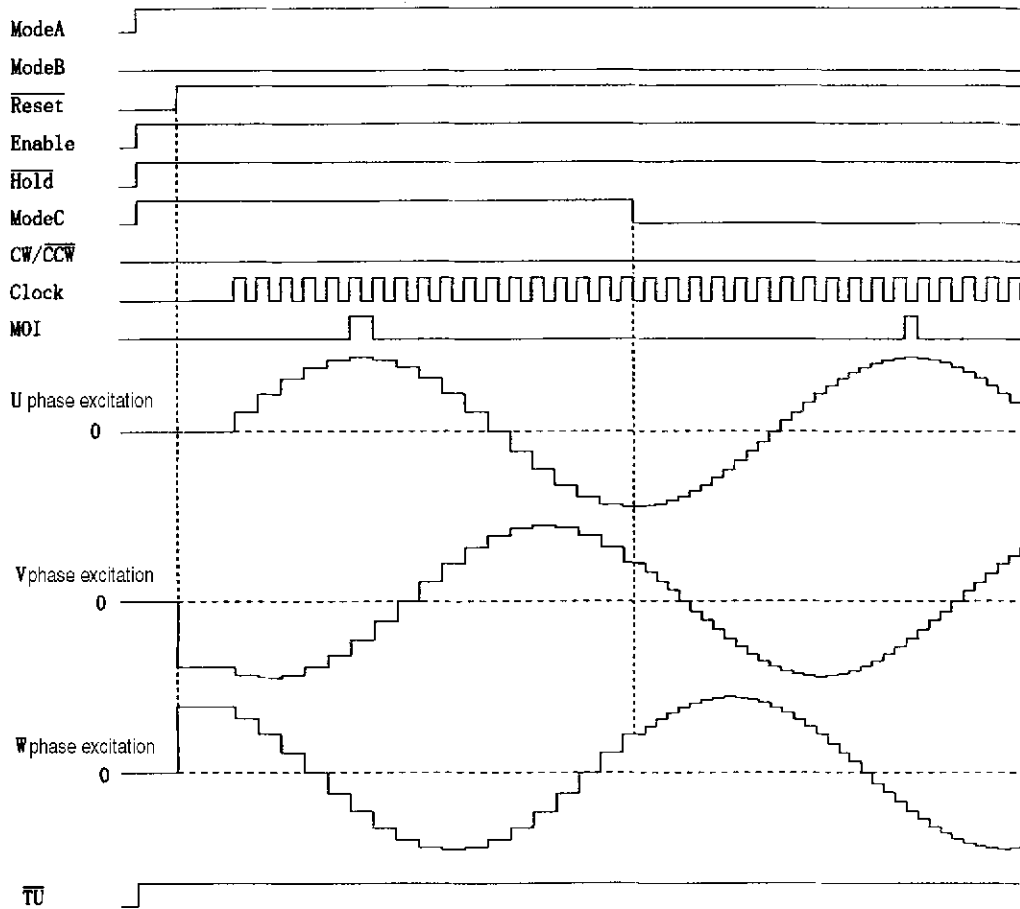

Figure 4. $V_{ref} - I_o$
- * Refer to Figure 4 for an example of Vref- I_o characteristics
(2) Allowable Operating Ranges of Motor Current